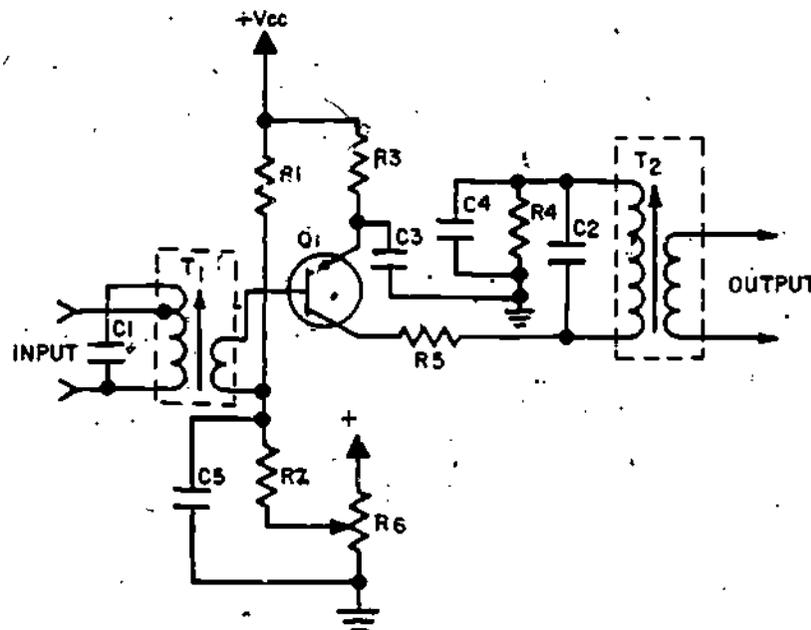
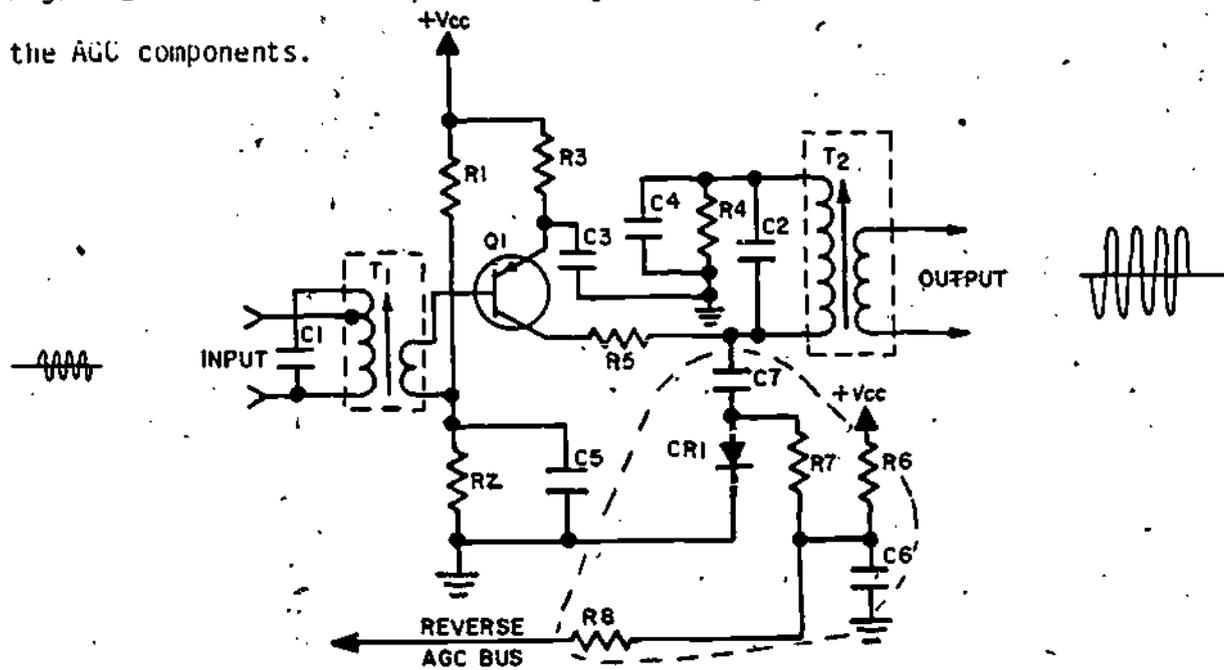

Figure 19
Figure 20
②1) Now that you know the principle for controlling transistor gain, let's apply your knowledge to the components in a typical IF amplifier circuit. Figure 19 shows the familiar IF amplifier stage from the NIDA trainer.
In Figure 19, manual operation of potentiometer R6 provides \_\_\_\_\_
Figure 20 shows the IF amplifier stage from Figure 19 with the addition of the AGC components.
In the figure, the additional components are located within the oval, and are labeled CR1, C6, C7, R6, R7, and R8. The AGC components provide an automatic reverse bias gain control over RF and IF amplifier stages which are previous to this stage. As the signal level within the stage in Figure 20 starts to overdrive the amplifier, a reduced positive AGC voltage is automatically fed back to limit the gain of previous stages. This will cause a reduction in the signal level input to this stage, and prevent overdriving. The AGC voltage in a receiver is usually tied to a common interconnecting line, sometimes called an AGC "bus". This AGC bus provides feedback from the AGC circuit to previous stages on the same bus.
In Figure 20, the \_\_\_\_\_ components provide a reduced bias voltage which is fed back to previous amplifier stages.